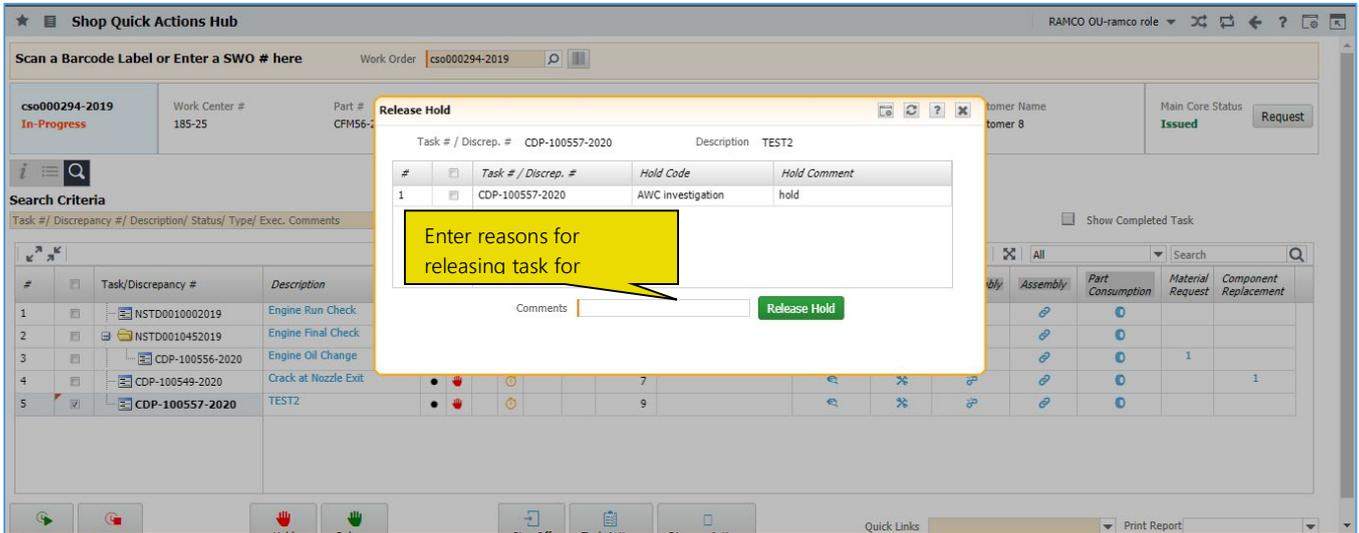

Figure 2.5 Releasing task
2. Click on the **Release** button. The **Release Hold** popup appears. *See Figure 2.5.*